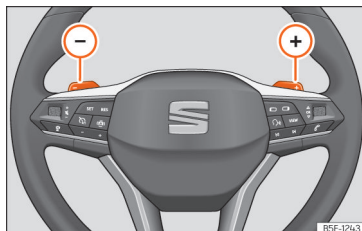

Fig. 91 Steering wheel: automatic gearbox levers
- Press the (+) gear shift paddle to change up a gear »» **Fig. 91**.